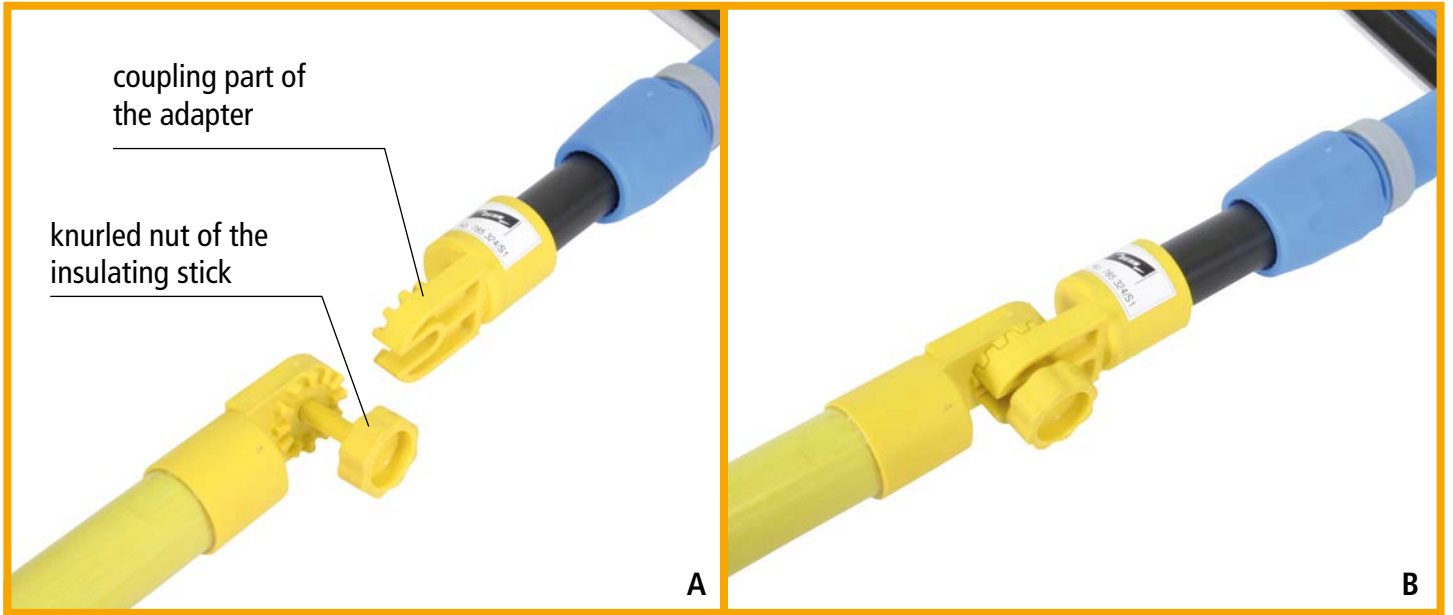

Figure 2 Mounting the adapter with gear coupling on the insulating stick
- ➔ Unscrew the knurled nut of the **IS 25 ZK... insulating stick** so that the coupling part of the **AD ZK 25 200 adapter** snaps into the gear coupling part of the insulating stick at the desired inclination angle (see Fig. 2/A).
- ➔ After that, firmly tighten the knurled nut to screw both coupling parts together (see Fig. 2/B).